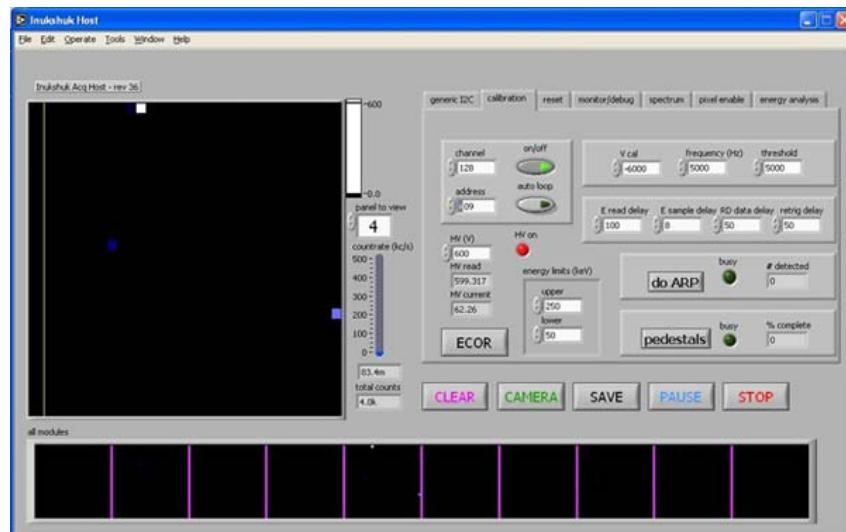

Figure 7-5
- A.) Click on the calibration tab (Figure 7-5)